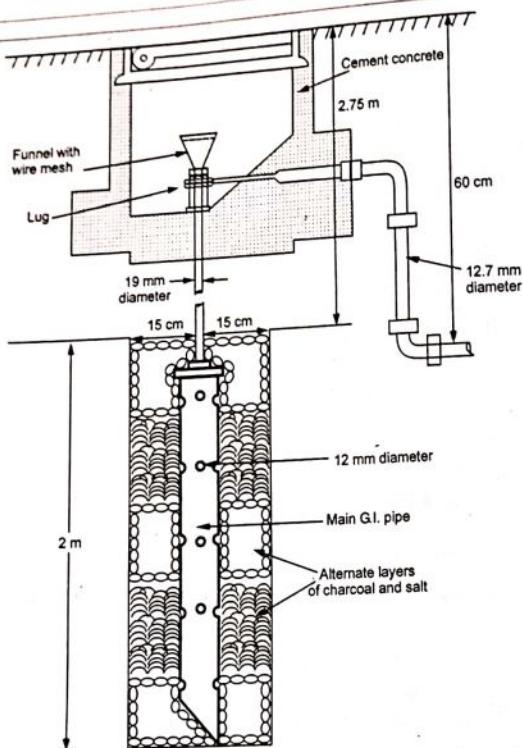

Fig. 6.9.2 Pipe earthing
- The pit area around the pipe is filled with salt and coal mixture for improving the condition of the soil and earthing efficiency. The schematic arrangement of pipe earthing system is shown in the Fig. 6.9.2.